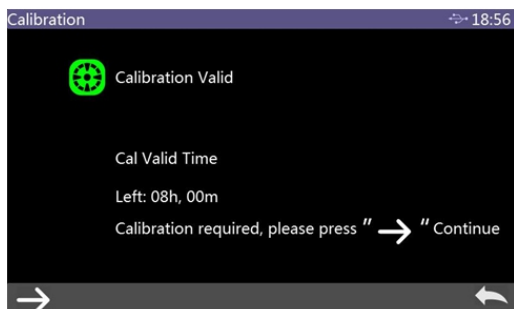

Figure 4 Black and White Calibration
2. In the main menu to click “Calibration” to enter white and black calibration interface as shown in Figure 4. It will show whether the calibration is valid or not and how long the remaining time is.
After black and white calibration are finished rightly, the instrument system will reset remaining time according to valid time after last calibration (As shown in Figure 4).
After finishing calibration rightly, the instrument system will reset remaining time according to valid time after last calibration (As shown in Figure 4).